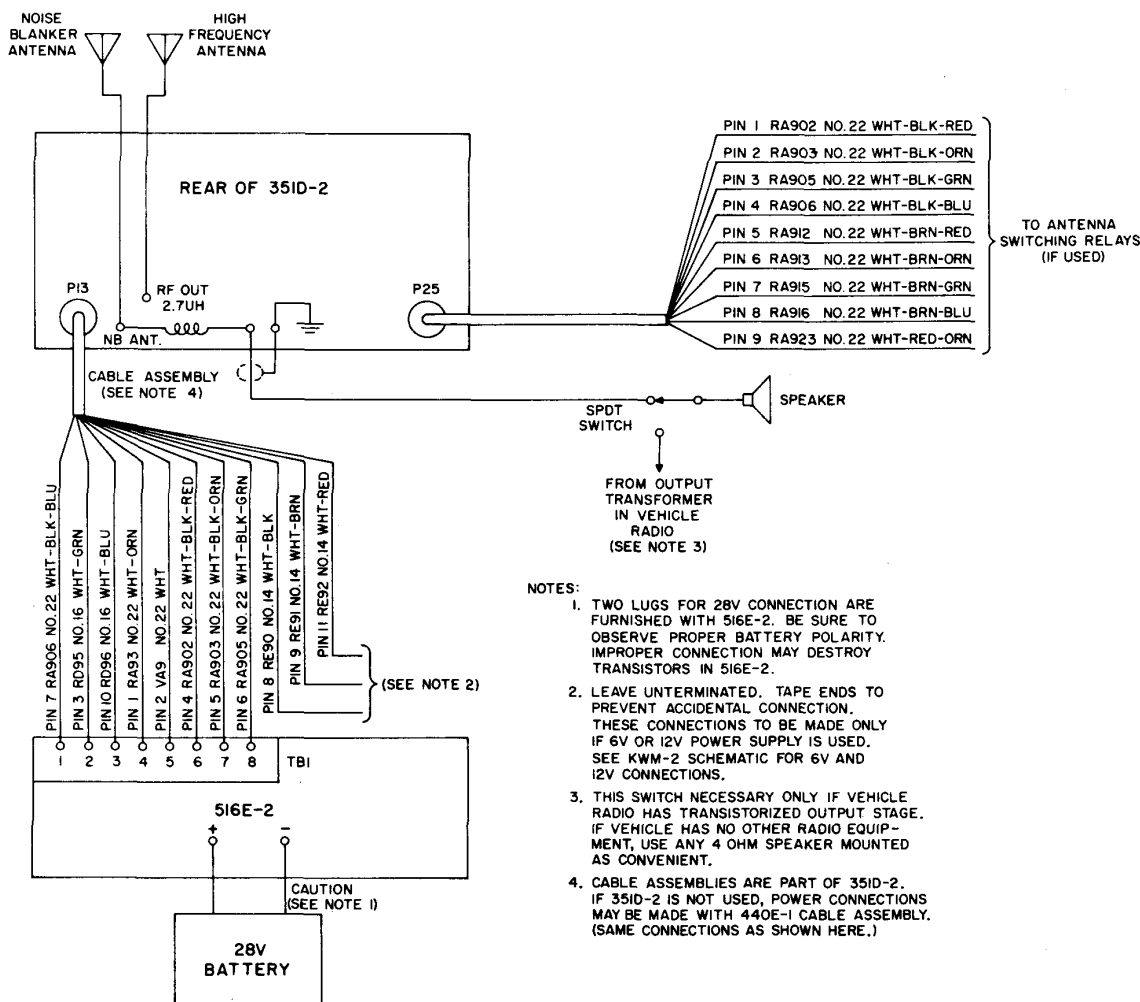

Figure 7-7. Interconnections to Collins KWM-2/2A.
7-16. Installation (fig. 7-7)
c. Remove the cover from the PP-4765/GRC-159(V) power supply terminal board, and make connections to the terminal board (fig. 7-7).
1. DO NOT connect the PP-4765/GRC-159(V) power supply to a 28-volt d.c. source having transient voltages in excess of 50 volts. To do so will destroy the switching transistors.
2. Be sure to observe proper polarity of the battery when making connections to the 24-volt terminals of the power supply DO NOT connect the PP-4765/GRC-159(V) to a system which has a positive ground unless the power supply has been modi-